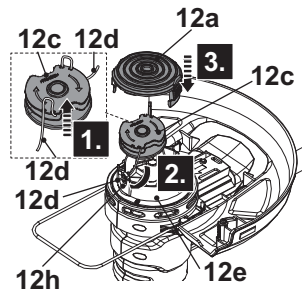

Fig. 26
6. Release the trimming line (12d) from the notches and hold it in position. Avoid the trimmer line (12d) scattered from the trimming spool (12c) (Fig. 26, Step 1).
7. Lead the trimming line ending through the eyelet (12h) on the housing (12e) (Fig. 26, Step 2).
9. Insert the trimming spool (12c) into the housing (12e) (Fig. 26, Step 3). Twist the spool until it locks into place.